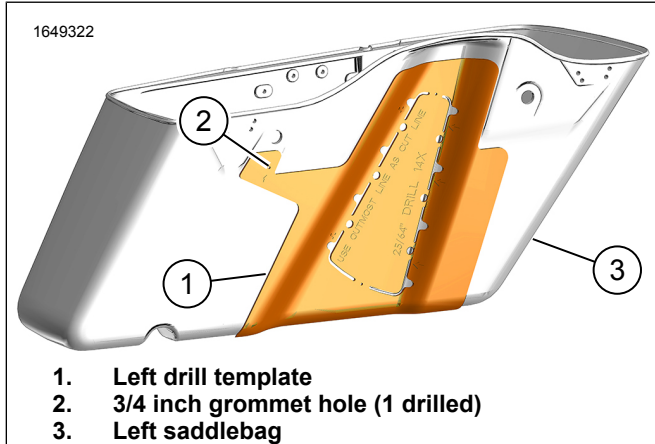

Figure 20. Left Saddlebag Drill Template
1. See Figure 20. Repeat procedures 1-8 from right saddlebag.